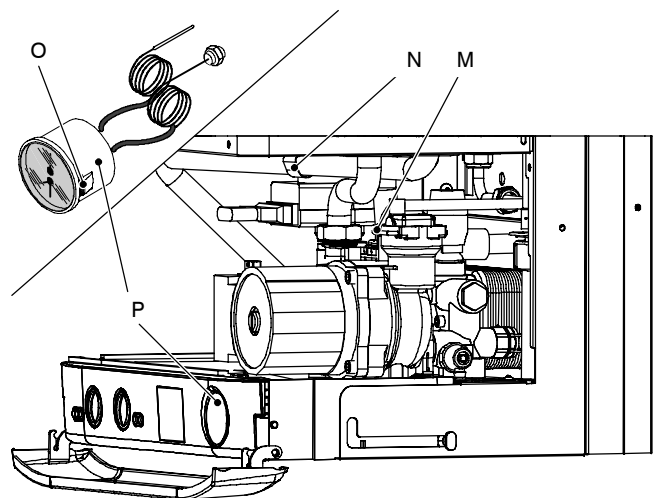

Fig. 58
- 2 Remove the fork M and the probe holder spring N (Fig. 58).